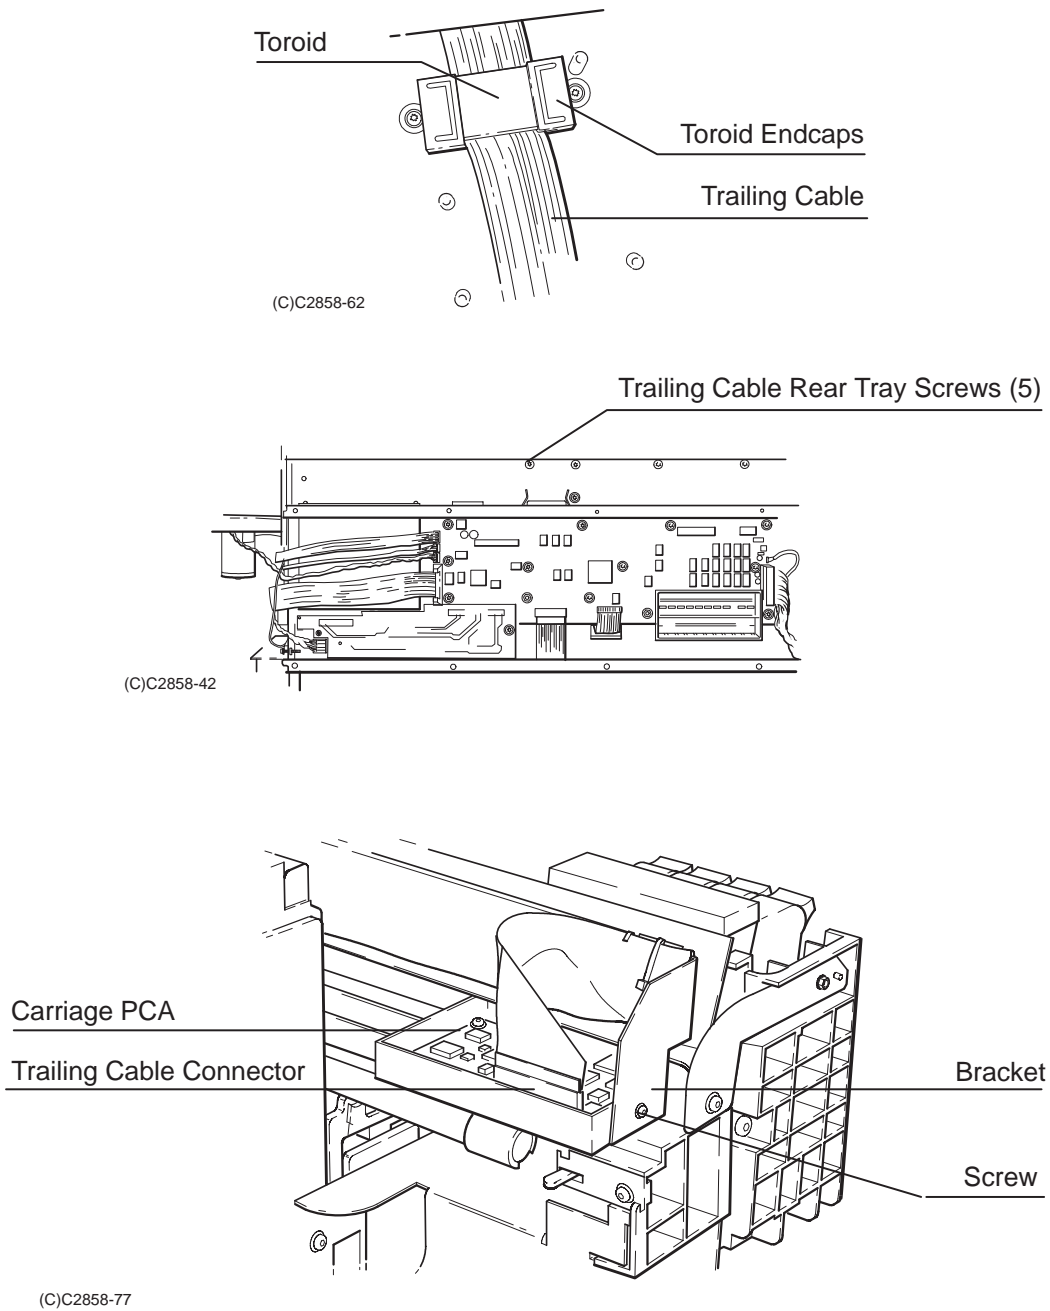

Figure 6-15.
While removing the trailing cable, see Figure 6-15.
5. Using a TORX T-15 screwdriver, remove the five screws that attach the trailing cable rear tray to the back panel. See Figure 6-15.